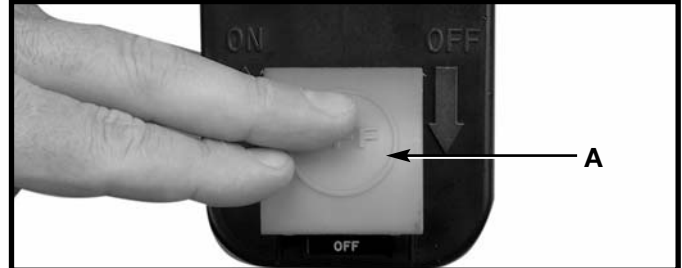

Fig. 38
2. To turn the saw "OFF", push down on switch shield (A) Fig. 38.